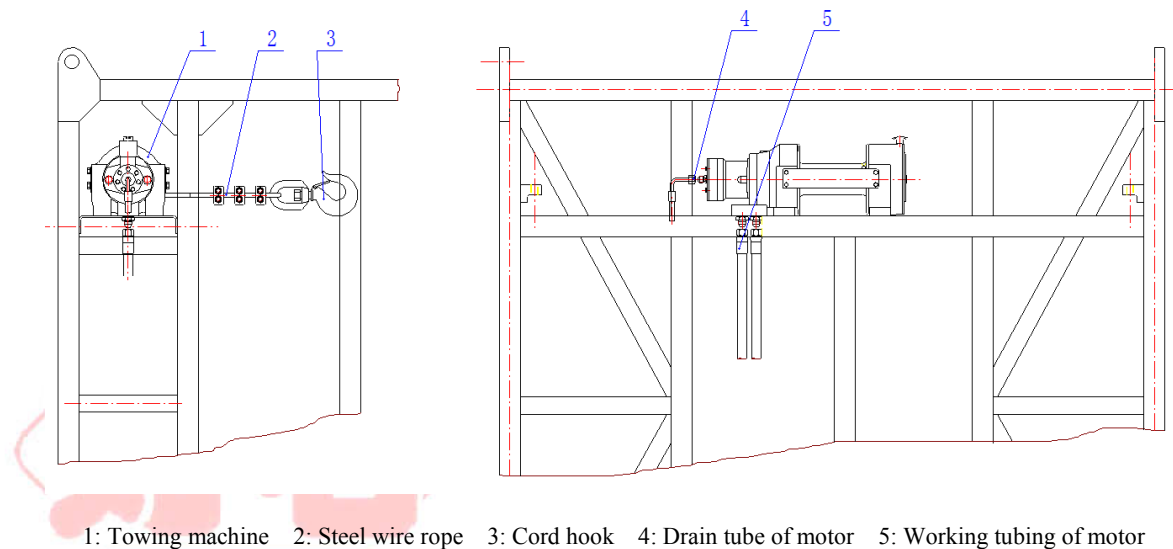

Fig. 9: Towing Machine
3.6.2 Towing machine: it is a kind of auxiliary equipment to power device used as the traction rope for swivel installation and removal. As shown in Fig. 9, there are steel wire ropes wound on the reel, and cord hook (3) buckled in the rings at the top of the lifting bail fixed at its free end of towing machine (1), so that it can tow the upper and lower drill blocks of swivel by taking back or releasing steel wire ropes, and prevent the swivel from damages or from colliding with other
- 2) Hook the lifting bail of swivel with the mini hoist of drill block and hook the lifting bail clip with the cord hook of towing machine (Fig. 9, part 3);